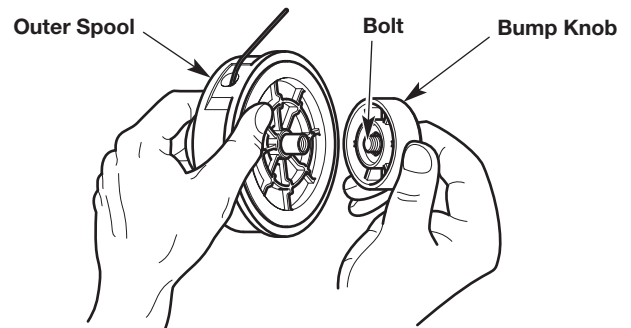

Fig. 16
1. Hold the outer spool with one hand and unscrew the bump knob counterclockwise (Fig. 16).